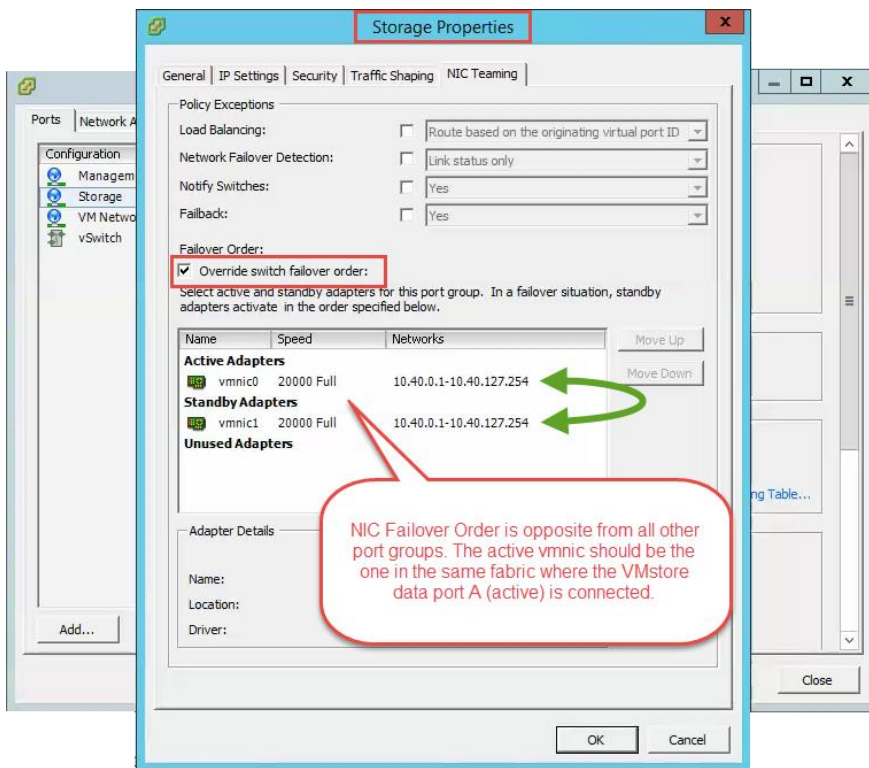

Figure 27 – Proper configuration of vmnic0 and vmnic1 for storage traffic.
12. Select the checkbox for “Override switch failover order:” as shown in Figure 27.
13. Configure vmnic0 and vmnic1 as shown in Figure 27.